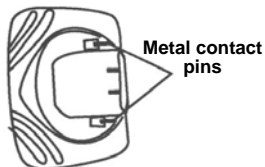
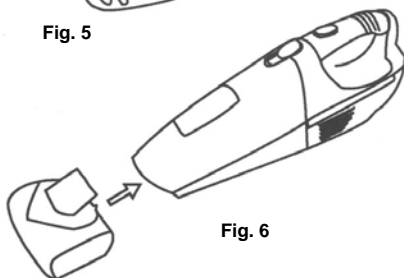

Fig. 5
Fig. 6
2. Firmly insert the motorized brush (Fig. 5) into the air-intake nozzle of the dust cup container ensuring that the contact pins are engaged in the connector slots of the unit. (Fig. 6) Please note that this motorized brush is for vacuuming short pile carpets or rugs.